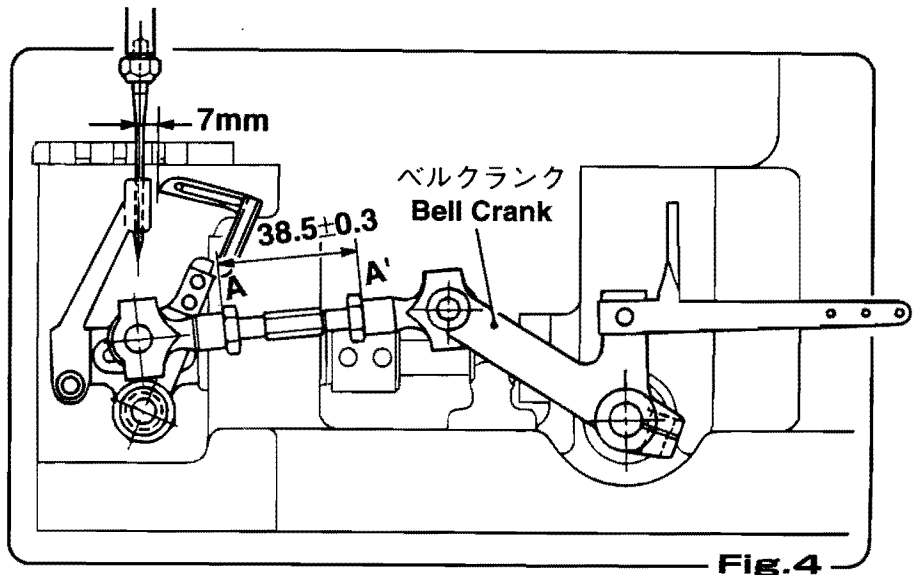
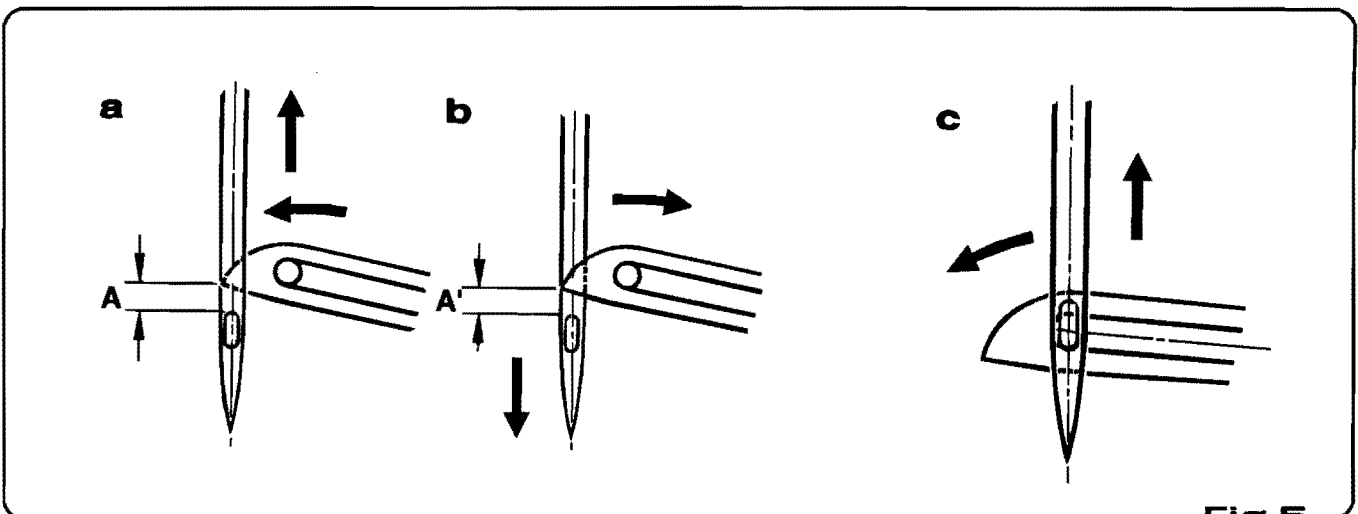
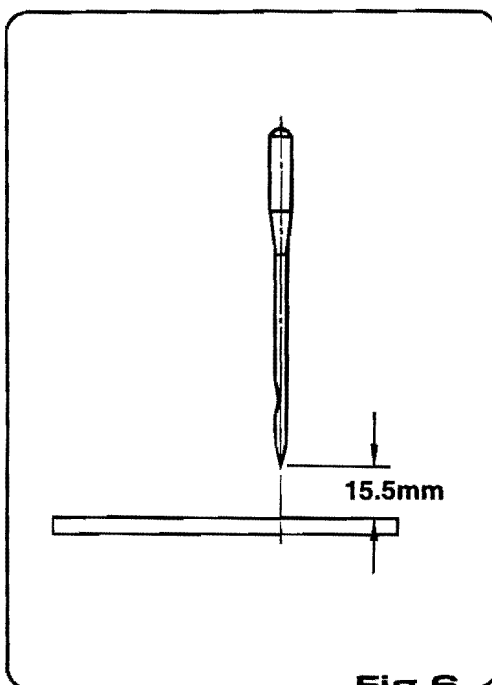

Fig. 4
Fig. 5
Fig. 6
Presser foot pressure must be adjusted according to the material of bag and thickness. Check the reverse side of seams. The pressure is too strong if seams show a sign of scratches by feed dog teeth, or the actual stitch length is shorter than the preset feed rate of feed dog teeth. In this case, unscrew plate spring adjust screw(102171), Figure 4, after loosening nut (5/16N24301). Be sure to tighten the nut after the adjustment. If the pressure is too weak, seams do not form a straight line, or the stitch length is irregular. In this case, increase the pressure by screwing the plate spring adjust screw. Decrease the pressure when closing jute and other heavy bag material, and increase it when closing PP woven cloth and other light bag material. Your machine is adjusted for 3-ply kraft paper bags at the factory.
a) Turn the pulley in the forward direction and adjust the bell crank so that the end of the looper is 7mm away from the needle center when the needle is in the most retracted position, as shown in (Fig.4). The distance between the nut (outside) of Loooper Connecting Rod must be 38.5 ± 0.3 mm. (Fig.4) Upon completion of the adjustment, tighten the screw of the bell crank.
Needle 5 and looper 1 movements are correctly timed if distance (A and A' of Fig.4) between Loooper point and Needle hole when Loooper points gets in line with left-side edge of Needle 5 is the same as Loooper 1 passes Needle in forward and backward movements. $A=A' \pm 0.3$ mm is allowable. Adjust by lightly tapping the looper Drive Lever. Loooper eyelet should overlap with lower part of oval hole of Needle, as shown in (Fig.5-c) as looper goes forward. Adjustment can also be done by loosening the set screw of the needle bar connecting stud and adjusting the height of the needle bar so that the end of the needle is 15.5mm from the upper surface of the throat plate as shown in (Fig.6).
あらかじめボールジョイントロッドの、図の距離 (A-A') を $38.5\text{mm} \pm 0.3\text{mm}$ 以内にして取り付けして下さい。(Fig.4) ルーパーが最も後退したとき針芯とルーパーの距離は 7mm です。
- * ルーパーの先端と、針の穴の寸法が同じになるように調整します。ルーパーを前進・後退させ、ルーパーと針が交差するときに、ルーパーの先端から針穴の寸法が同じになるよう ($A=A'$) に調整して下さい。(Fig.5-a-b) $A=A' \pm 0.3\text{mm}$ は許容範囲です。
- * $A=A'$ の寸法を確認した後で、(Fig.5-c) ルーパー穴の下面と、針穴の下面が一致するように、針棒抱きのネジをゆるめ、針棒の高さを調整して下さい。
- * あらかじめ、(Fig.6) の通り針が最もあがったとき、針と針板の距離が 15.5mm になるように、針棒の高さを定めると、調整が容易に出来ます。